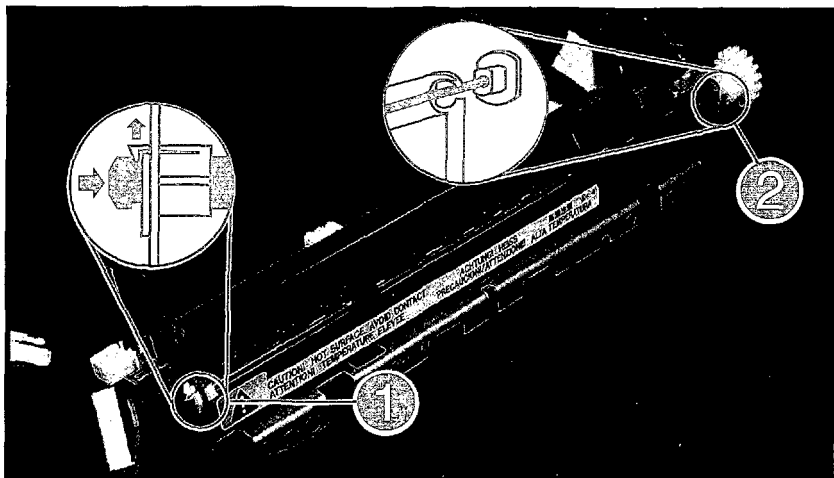

Figure 6-31 Removing the Lower Delivery Roller
1. Lift up on the bushing tab and slide the shaft inward and out of the bushing (Figure 6-31, callout 1).
2. Slide the bushing out from the metal frame and slide the Lower Delivery Roller out (Figure 6-31, callout 2).